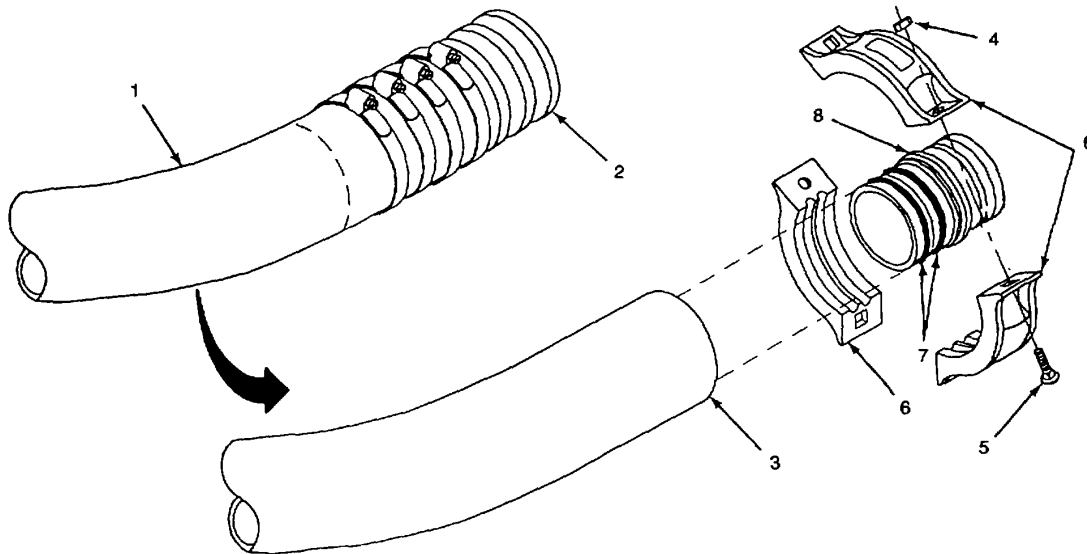

Figure 3-5. Female Hose Adapter Assembly
- (3) Install female hose adapter assembly as follows (Figure 3-5):